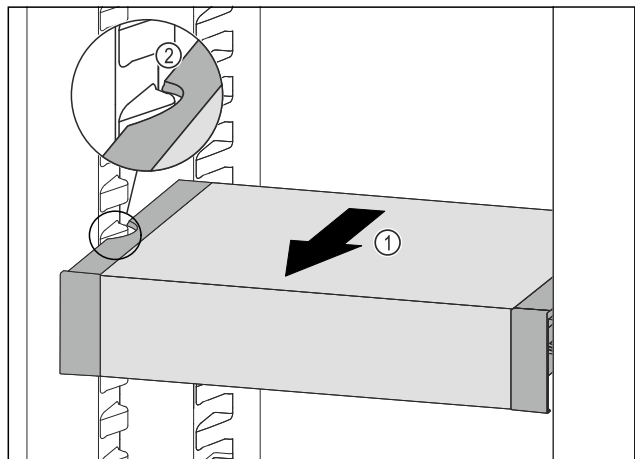

Fig. 90
- ▶ Pull VarioSafe forwards *Fig. 90 (1)* until the recesses in the side of the VarioSafe are at the level of the support rib in the fridge section. *Fig. 90 (2)*